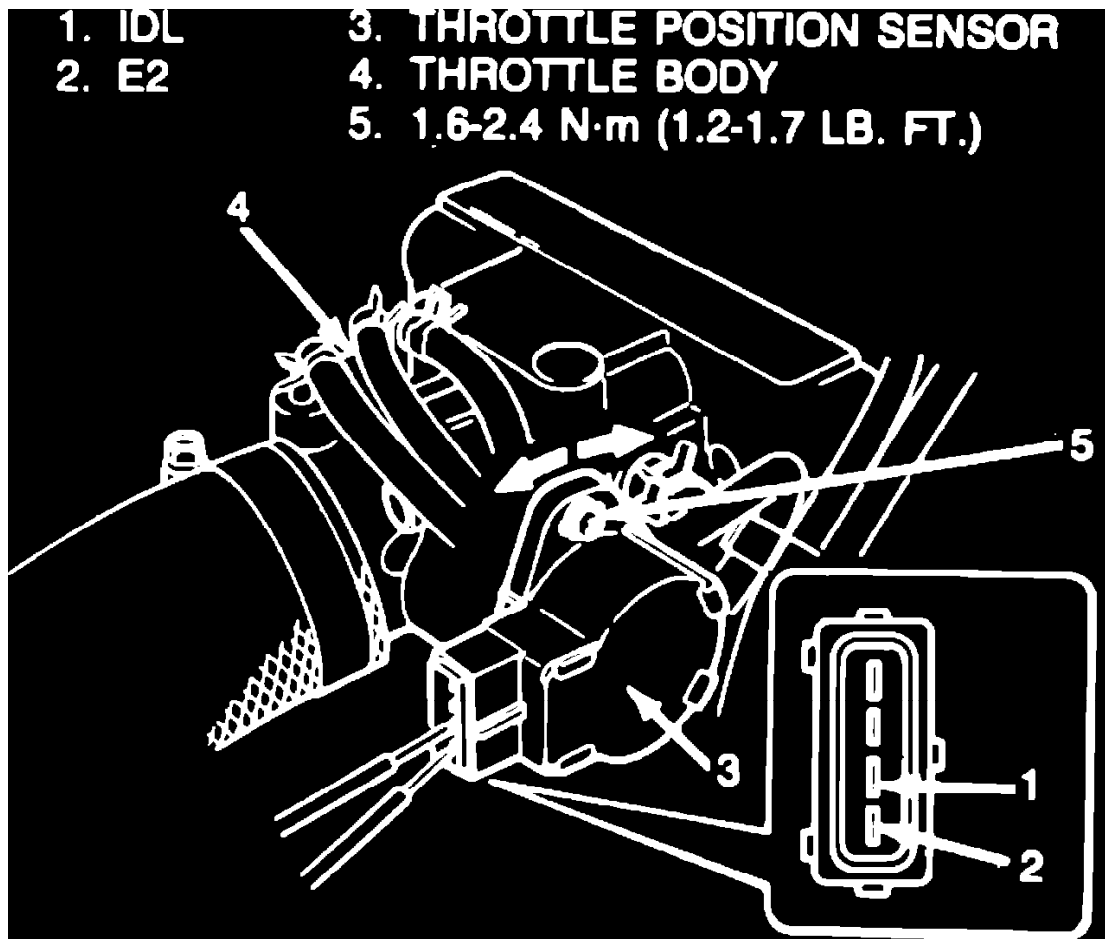

Fig. 20 Installing throttle position sensor
- a. Insert a .024 inch thickness gauge between throttle stop screw and throttle lever. Move throttle position lever as necessary until continuity between terminals IDL and E2 is present, **Fig. 20**. At that position, torque sensor screw to 1.2 - 1.7 ft. lbs.